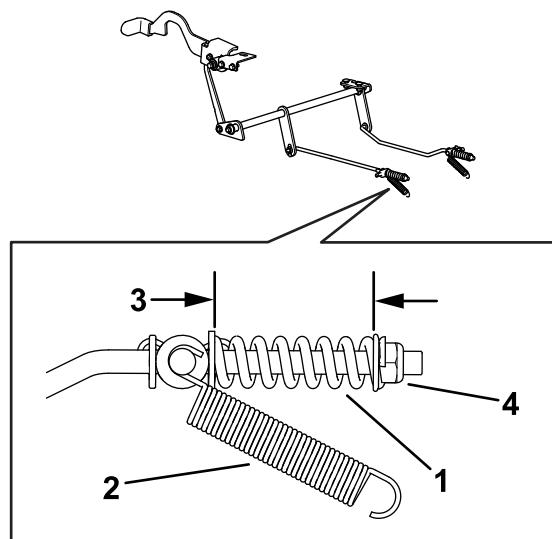

Figure 80
8. Check both spring lengths as shown in Figure 80. If an adjustment is necessary, turn the spring retention nut clockwise to shorten the spring and counterclockwise to lengthen it. Repeat step 6.